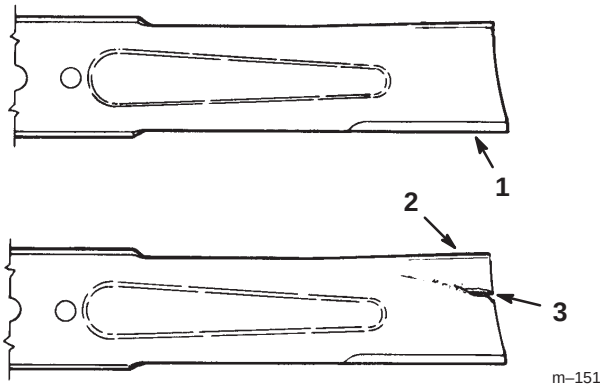

Figure 33
2. Inspect the cutting edges (Fig. 33). If the edges are not sharp or have nicks, remove the blade(s) and sharpen them; refer to Sharpening the Blade(s), page 36.
3. Inspect the blade(s), especially the curved area (Fig. 33). If you notice any damage, wear, or a slot forming in this area (Fig. 33), immediately install a new blade.